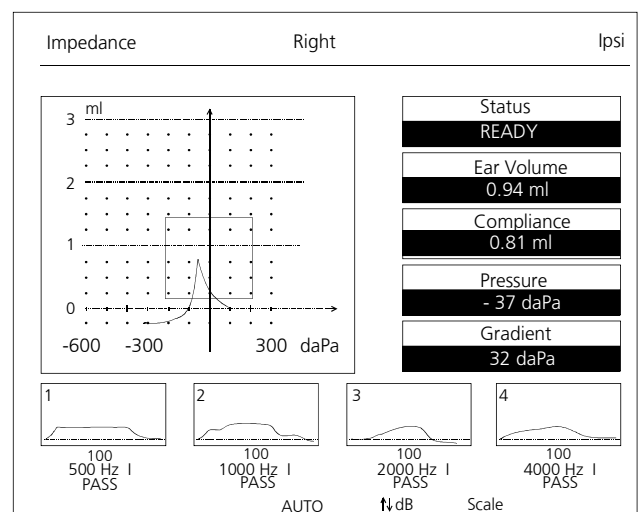

Figure 23 Example of a normal Tympanogram with ipsilateral reflex results
Carry out the measurement as described in chapter 4.4 "Measuring the Tympanogram". The stapedius reflex is measured after the measurement of the Tympanogram. During the measurement of the stapedius reflex the change of the compliance is represented in real time on the LCD display ⑤. When the test is finished the curves for the changes of compliance for 500 Hz, 1000 Hz, 2000 Hz and 4000 Hz are shown in four separate graphs at the bottom of the measurement screen (see Figure 23). Below each curve you see the test level where a stapedius reflex was registered automatically. This is indicated by a "PASS" below the frequency. If no reflex was detected, a "NR" is reported and the maximum level is shown.
Below each box the test level, the test frequency and the type of the test (I=ipsi, C= contra lateral) are shown. Also the test result is shown as "PASS" or "NR". In the example in Figure 23 for 500 Hz a stapedius reflex was registered at 100 dB_{HL} and for 4 kHz at 100 dB_{HL}. If no reflex